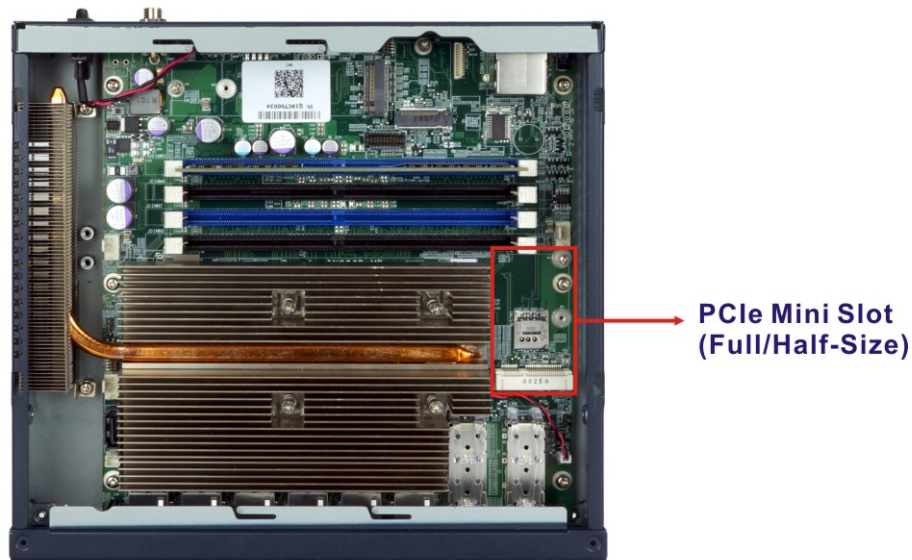

Figure 3-3: PCIe Mini Slot Location
Step 2: Locate the PCIe Mini slot on the motherboard (**Figure 3-3**).